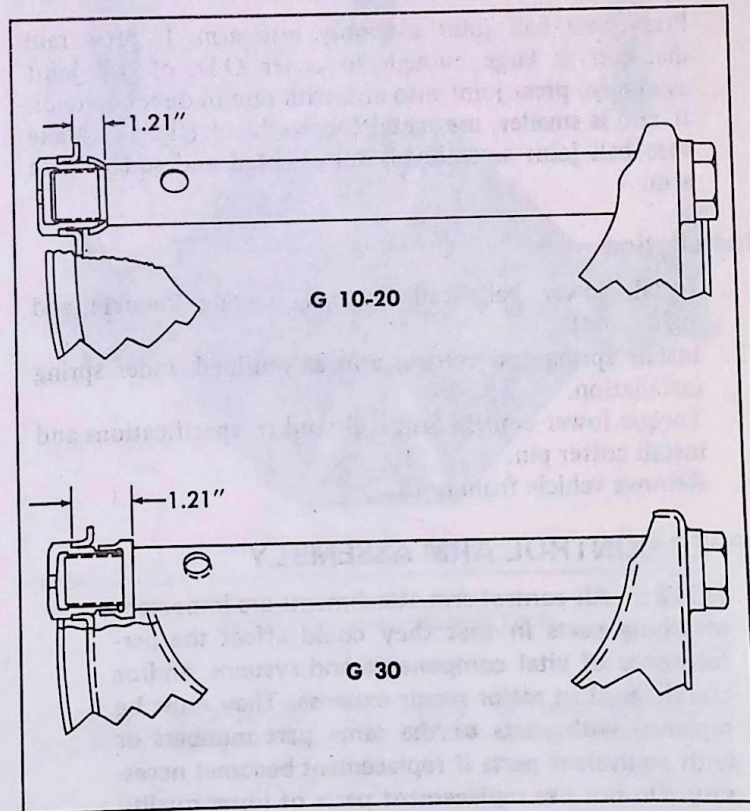

Fig. 14—Positioning Lower Control Arm Shaft
3. Start new bushings on shaft and into control arm. Adjust shaft until it is centered in control arm, then turn bushings in and torque to specifications. Figure 14 shows correct final positioning of shaft. Check shaft for free rotation and install grease fittings.